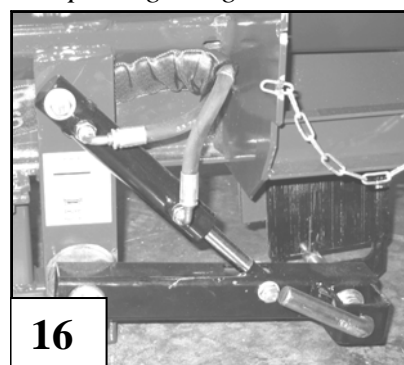

Fig. 16. Hydraulic adjustment of the splitting wedge
5.5 Hydraulic height adjustment of the splitting wedge Fig. 16, optional